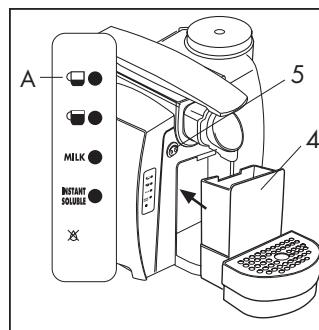

Fig. 18
Reset the machine by pressing the dispenser button (A) for two seconds or turn the machine off and on again pressing the main switch (5). (Fig. 18).